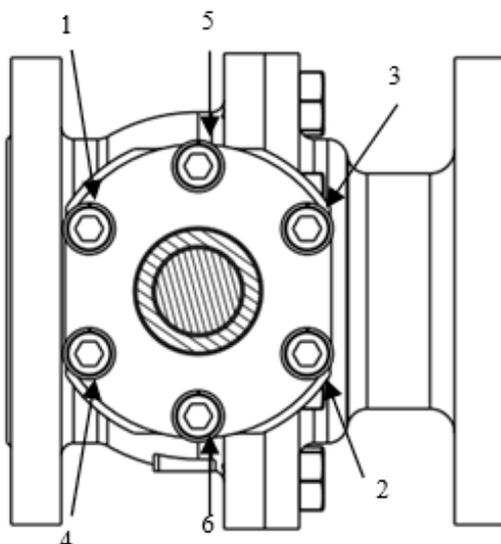

FIGURE 3
- 10.18.** Remove all flange bolts, so the valve body can slide side-ways from its installed position and be brought out of the pipe line (see **figure 3**).